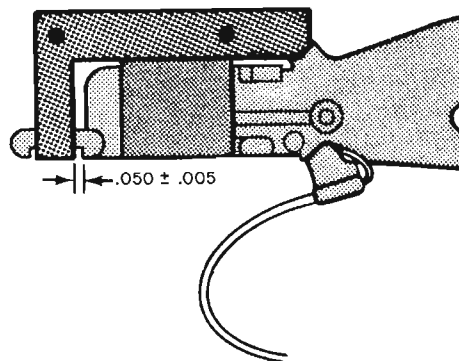

Figure 5-10. HEAD ADJUSTMENT - LOWER SET
Since disk interchangeability is not affected by the lower heads, the adjustment consists of merely moving the card cage to the head-cleaning position as described in 5.4.2.1, inserting a $.050 \pm .005$ shim between the head mounting plate and the carriage roller plate, tightening the set screw to 95 inch ounces, and removing the shim. This adjustment is shown in Figure 5-10.
1. Adjust the upper disk R/W heads for .050" gap (same as lower disk heads), as shown in Figure 5-10.